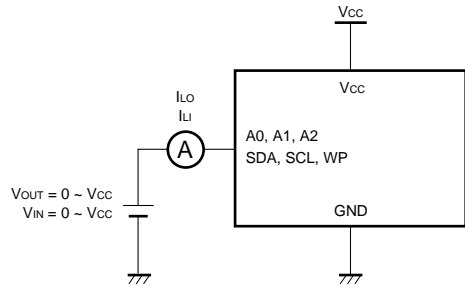

Fig. 2 Input / output leakage current measurement circuit
| Input leakage current 1 | I _{LI1} | - 1 | — | 1 | μA | V _{IN} = 0V ~ V _{CC} | Fig.2 |
| Input leakage current 2 | I _{LI2} | - 1 | — | 20 | μA | V _{IN} = 0V ~ V _{CC} (WP) | Fig.2 |
| Output leakage current | I _{LO} | - 1 | — | 1 | μA | V _{OUT} = 0V ~ V _{CC} | Fig.2 |